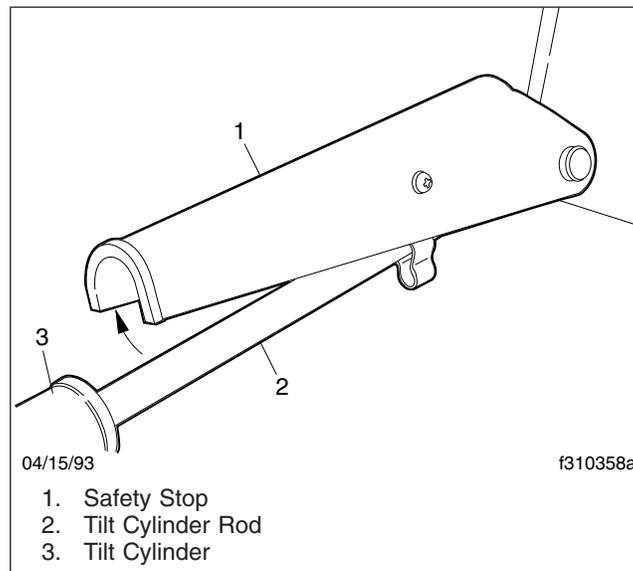

Fig. 34, Safety Stop Disengaged
19. Allow the cab to lower to the safety stop, then move the safety stop away from the right tilt cylinder rod. See Fig. 34.